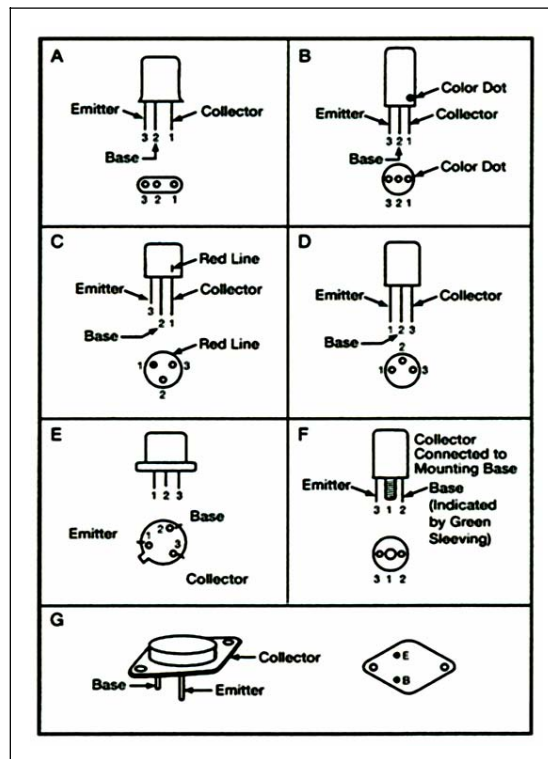

Figure 2-20. Transistor Lead Identification
2-98. There are, however, some typical lead identification schemes that will be very helpful in transistor troubleshooting. Figure 2-20 shows these schemes. In the case of the oval shaped transistors shown in view (A), the collector lead is identified by a wide space between it and the base lead. The lead farthest from the collector, in line, is the emitter lead. When the leads are evenly spaced and in line, as shown in view (B), a colored dot, usually red, indicates the collector. If the transistor is round, as in view (C), a red line indicates the collector, and the emitter lead is the shortest lead. In view (D) the leads are in a triangular arrangement that is offset from the center of the transistor. The lead opposite the blank quadrant in this scheme is the base lead. When viewed from the bottom, the collector is the first lead clockwise from the base. The leads in view (E) are arranged in the same manner as those in view (D) except that a tab is used to identify the leads. When viewed from the bottom in a clockwise direction, the first lead following the tab is the emitter, followed by the base and collector.
2-99. In a conventional power transistor as shown in Figure 2-20, views (F) and (G), the collector lead is usually connected to the mounting base. For further identification, the base lead in view (F) is covered with green sleeving. You can identify the leads in view (G) by viewing the transistor from the bottom in a clockwise direction (with mounting holes occupying 3 o'clock and 9 o'clock positions). The emitter lead will be either at the 5 o'clock or 11 o'clock position. The other lead is the base lead.